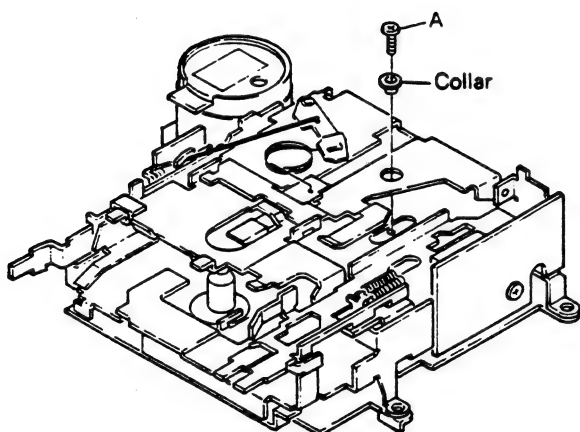

Fig. 1
1. Remove screw A fixing the FR lever. (Fig.1)